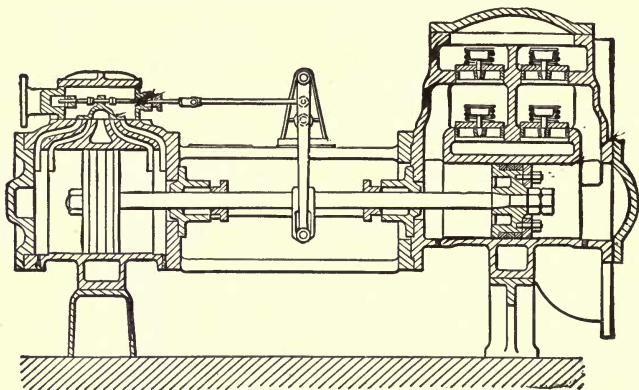

FIG. 167.—Cross-Section of a Boiler Pump.
**355. Boiler Pumps and Injectors.**—A boiler should have at least two means of feeding water, because one might fail to work. The water inside a boiler is usually kept at a proper level by either pumps or injectors. Steam pumps (Fig. 167) are most commonly used on stationary and marine boilers, and may be classified as boiler-feeders, general surface pumps, tank pumps, or water-work pumps,